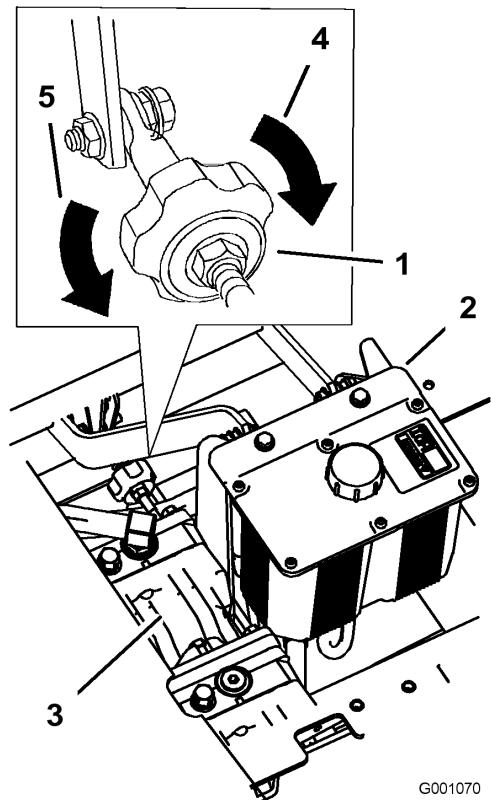

Figure 65
2. Adjust the pump rod length by rotating the knob, in the appropriate direction, until the wheel is still or slightly creeping in reverse (Figure 65).